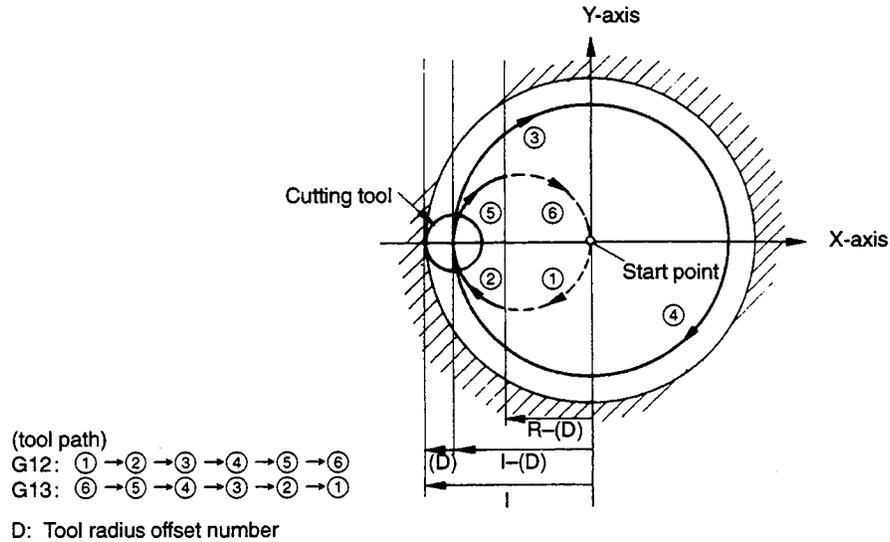

FIGURE 4.1.5.5 Movements in the “X-” Direction (Symmetrical to Y-axis)
- Movements in the “X-” direction (symmetrical to Y-axis) are possible by changing the signs of I, J, K, and D. In the example as shown in Fig. 4.1.5.5, a negative value should be assigned for I, R, (and D). Note that cutting is not possible by Y-axis movements.